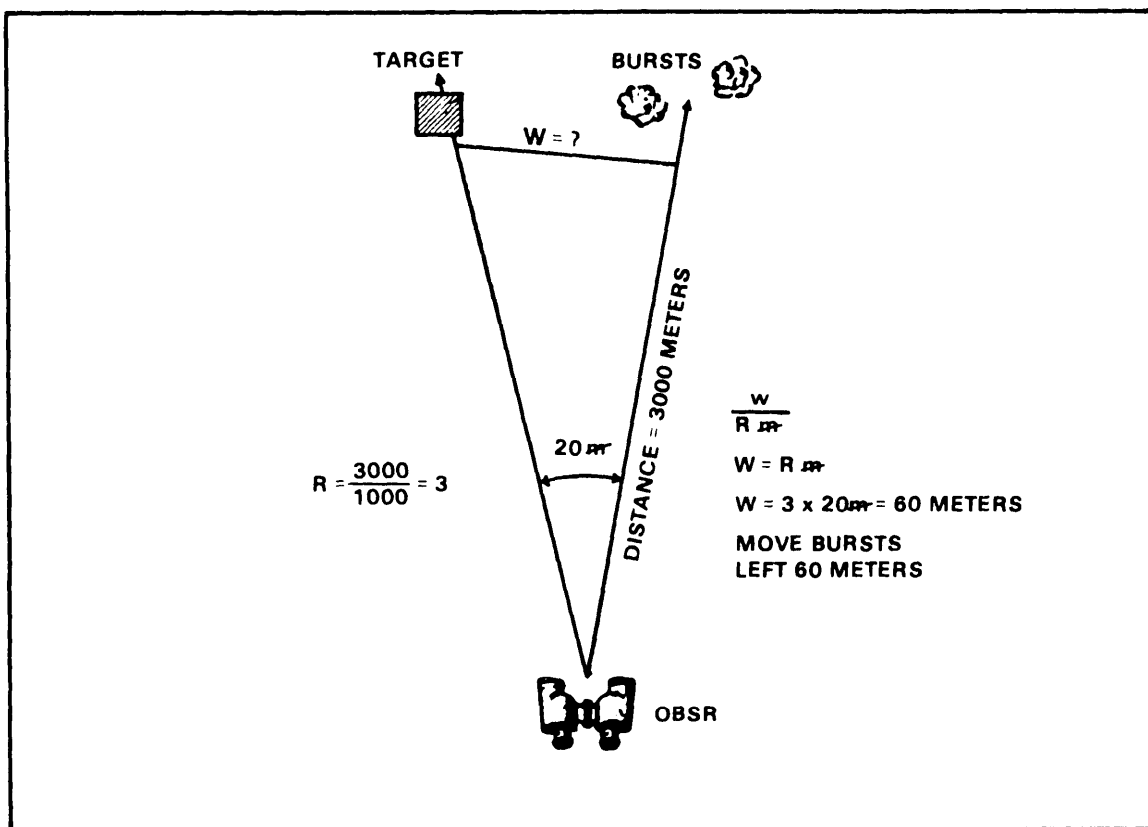

Figure 6-8. Computation of direction shift.
c. The observer uses the mil relation in computing direction shifts as indicated in Figure 6-8.